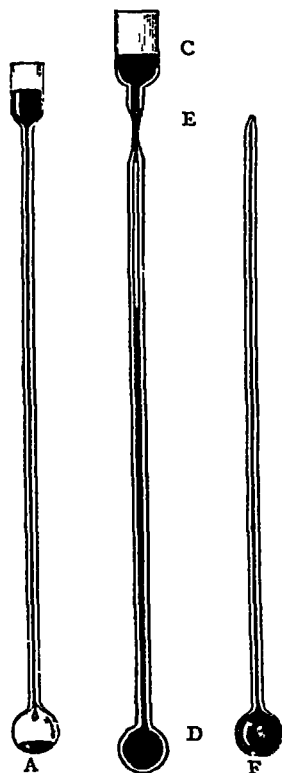

FIG 5.
**A Mercury Thermometer**—A small bulb is blown at the end of a tube with a fine uniform bore (fig 5)